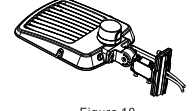

Figure 10
- Step 2: Install the bracket on the fixture, then cover the side lid and tighten it.(Figure10).